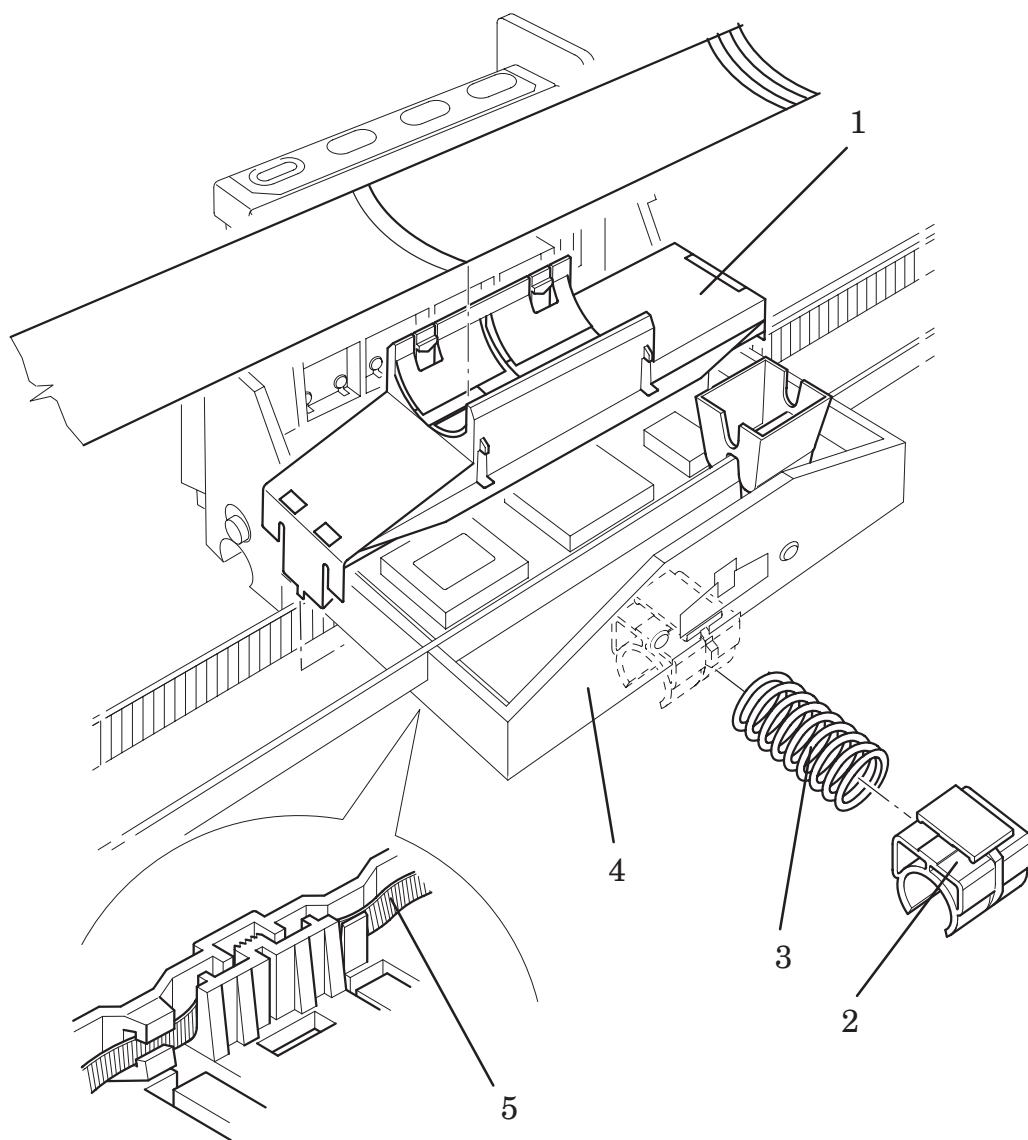

Figure 14: Carriage Assembly
1. Install the Y-axis belt (item 3) onto the carriage assembly making sure the belt is in between the two slider rods (see figure 14, item 5).
Refer to figure 14 ♦ page 8-44